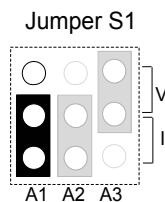

Figure 4.7 Terminal A1 Set to Current Input
4. Set the drive to accept current based (4 to 20 mA) Feedback Set the A1 terminal of Jumper S1 to current type input (I) as shown in Figure 4.7. Set parameter H3-01 to 2 (4 to 20 mA) for signal type on A1. Set parameter H3-02 to 23, function of the A1 input, Well Level feedback